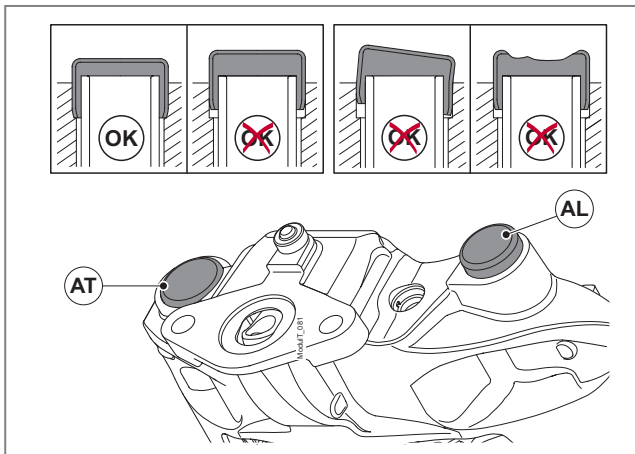

Fig. 72 - Correctly seating the protective caps
12. Carefully and squarely tap the protective caps (AT) and (AL) in place into using a soft headed mallet. Note that the caps are different sizes. The larger cap is fitted to the floating bearing side (AT) and the smaller cap is fitted to the fixed bearing side (AL). The fixed bearing protective cap (AL) is seated raised from the casting surface, whilst the floating bearing protective cap (AT) sits nearly flush, see ► Fig. 72.
14. Ensure that the protective caps are correctly seated as far as they will go, see ► Fig. 72.